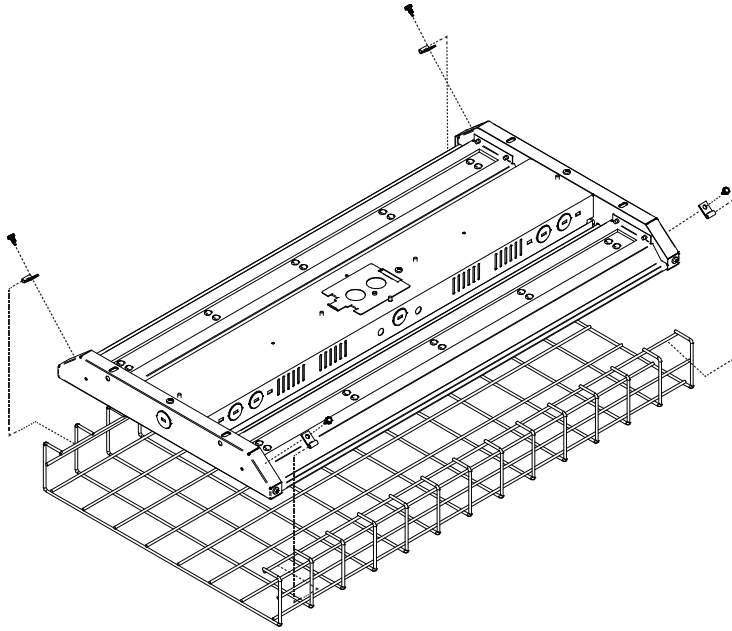

Figure 6
- Extend the wire guard so it passes the mounting tabs of the endplate and slide it onto the fixture. Install the clips on the wire guard at the bend tab locations. (Figure 6)